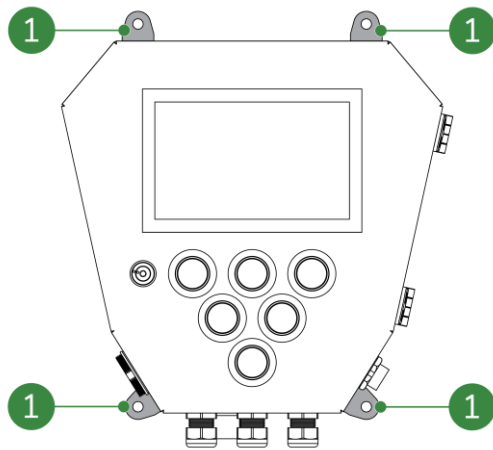

Figure 5-15: HMI attachment points
3. Take measurements and drill holes that correspond with the HMI's attachment points (Figure 5-15, pos. 1).
4. Safely hold the HMI against the surface and align the screw holes of all four attachment points (Figure 5-15, pos. 1) with the drilled holes.
5. Place the four bolts (with their washers) through the holes of the attachment points (Figure 5-15, pos. 1), into the drilled holes and tighten them with nuts.